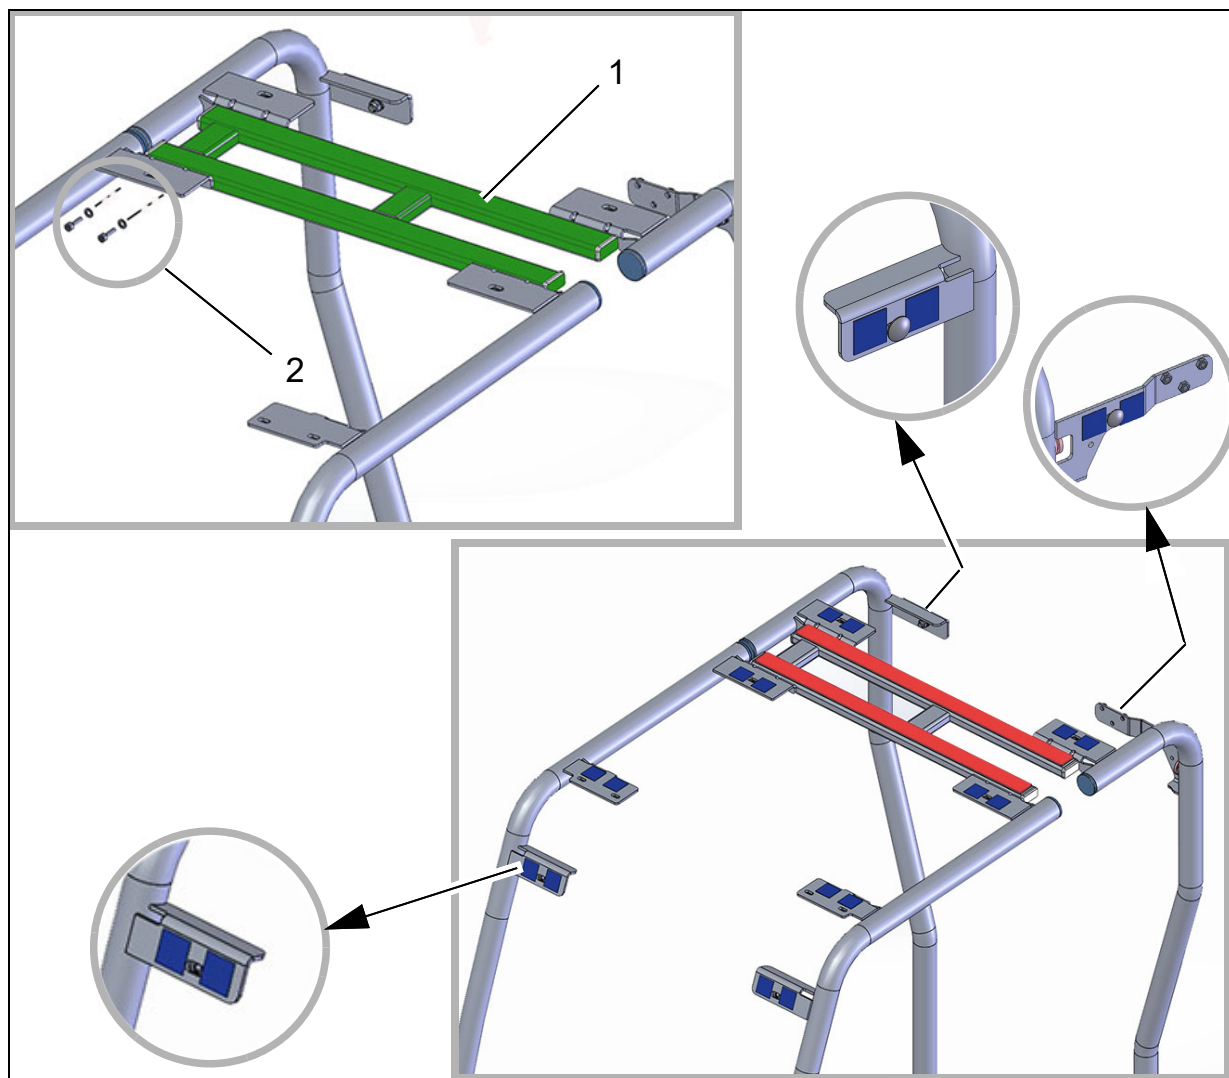

Fig. 5
1. Position the frame (Fig. 5/1) between the front and rear bars as per the illustration and attach to the bars with the eight M6x20 cylinder head screws (secure with Loctite type 243) and detent edge washers (Fig. 5/2).